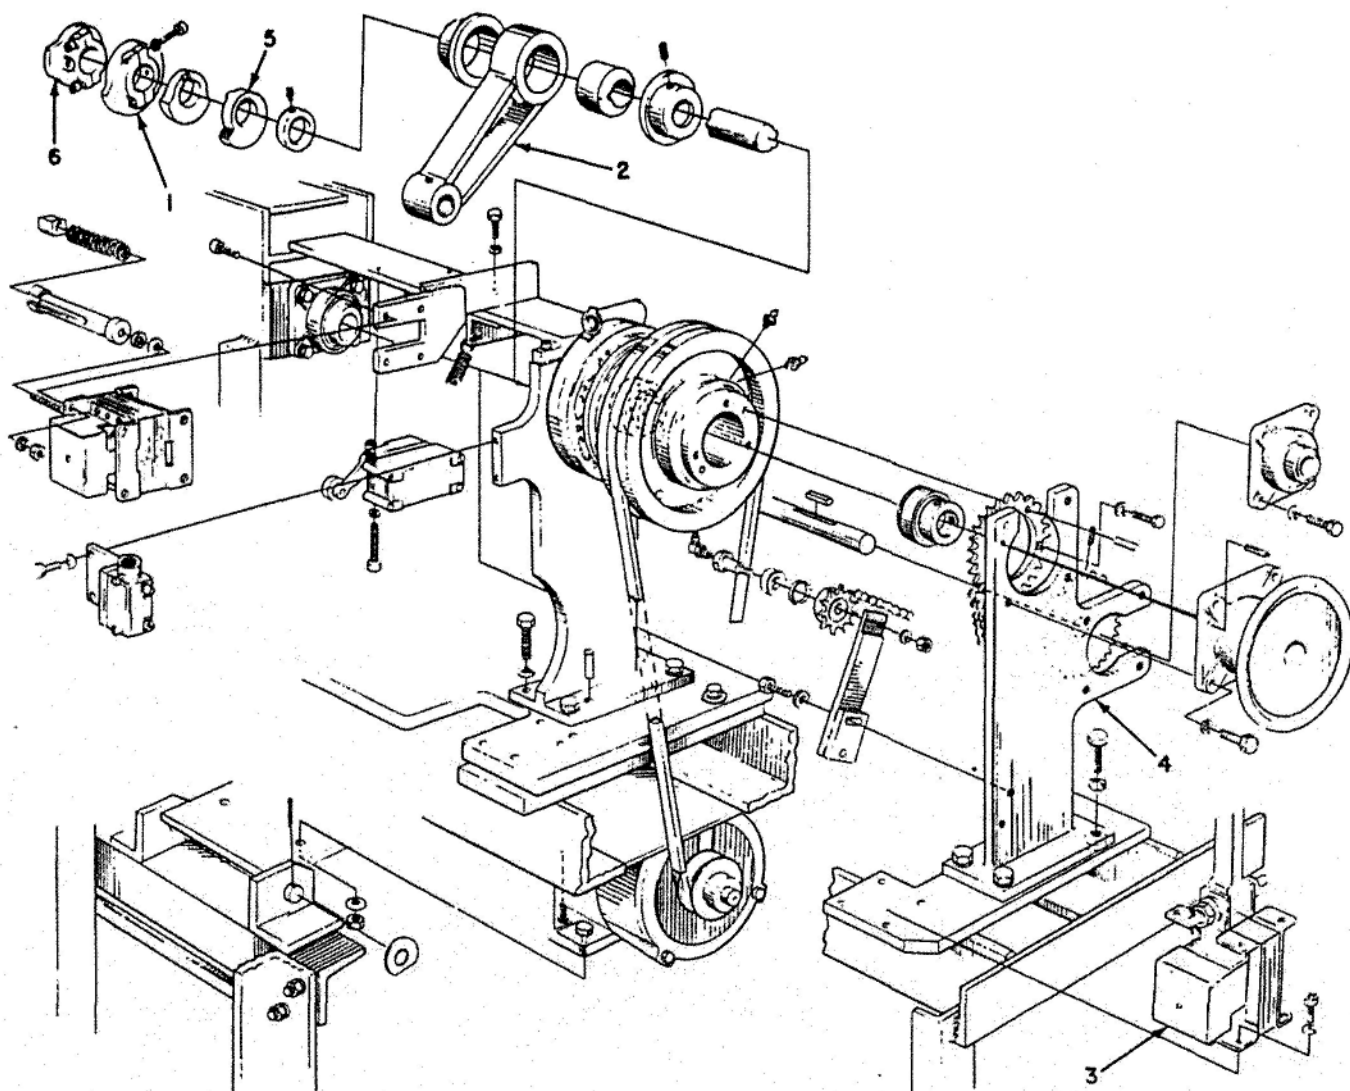

Figure 26 - Cams & Rear End Drive Assembly
Position the cycle cam (1) and the trip gauge cam (6) on the shaft as shown in Figure 26. (Note - Both cams are identical.) Tighten the two socket head screws sufficiently so that the cam can be turned on the shaft for positioning. Check the neutral position as described in the "Timing and Alignment Procedure" on page 23. At this position, the 0° mark should be in a vertical position at the top of the handwheel. Turn the handwheel in a counterclockwise
Continue to turn the handwheel counterclockwise and stop with the 90° mark in a vertical position. Rotate the trip gauge cam (6) Figure 26, in a counterclockwise direction to a position where the switch arm is coming on
1. Check high speed clutch solenoid, (3), Figure 26 to see if it operates when target switch lever is pulled back.
3. Remove the pins in the side plates and push plates away from connecting rod (2), Figure 26.